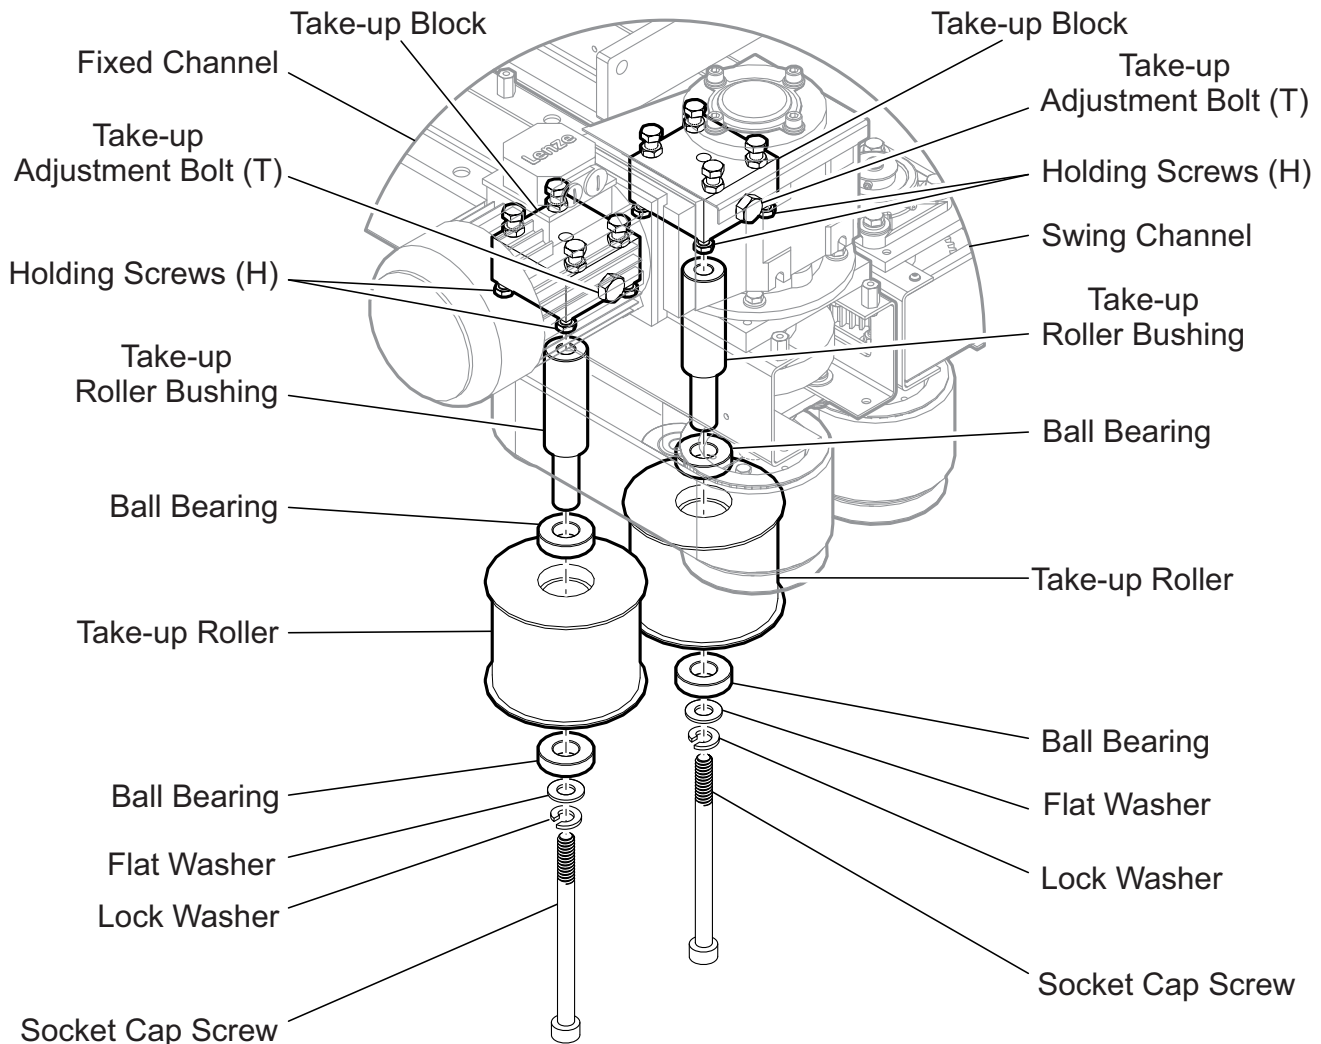

Figure 5-24: Take-up Roller Components
The take-up rollers provide the tension in the compression belts. They also act as guides for the bag tops as they begin to enter the compression process. After normal wear, the rollers and bearings will need to be replaced. The replacement rollers come with the bearings installed (see Figure 5-24: Take-up Roller Components). When replacing the rollers, always replace the front and rear rollers at the same time. To replace the rollers, follow these steps:
3. To remove the take-up rollers, the tension in the compression belt must first be removed. This is done by turning the take-up adjustment bolt (T) into the block (see Figure 5-24: Take-up Roller Components). Do not turn the screw too far into the block to the point where it begins to tighten again.
4. Loosen the ½ inch socket cap screws (take-up block only) (see Figure 5-24: Take-up Roller Components). This is done from the bottom of the rollers. Do not remove the screws.
5. Each take-up block is held in position by the four holding screws (H) on the bottom of the channels. These screws pass through slots to allow for adjustments. Loosen the holding screws (H), but do not remove them.
7. If the bushings are still on the screws, then remove them as well (see Figure 5-24: Take-up Roller Components).